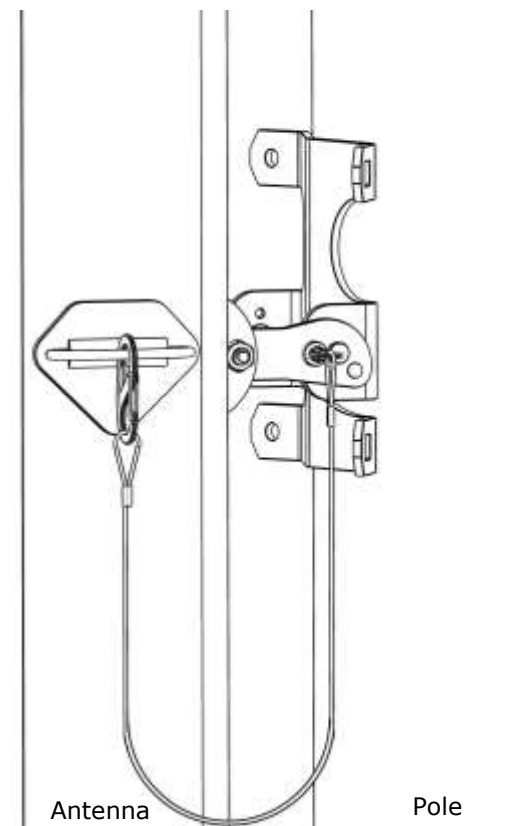

Figure 16: Clasping S carabiner
- b. Clasp each S carabiner to corresponding loop on the sides of the antenna. See *Figure 16*.